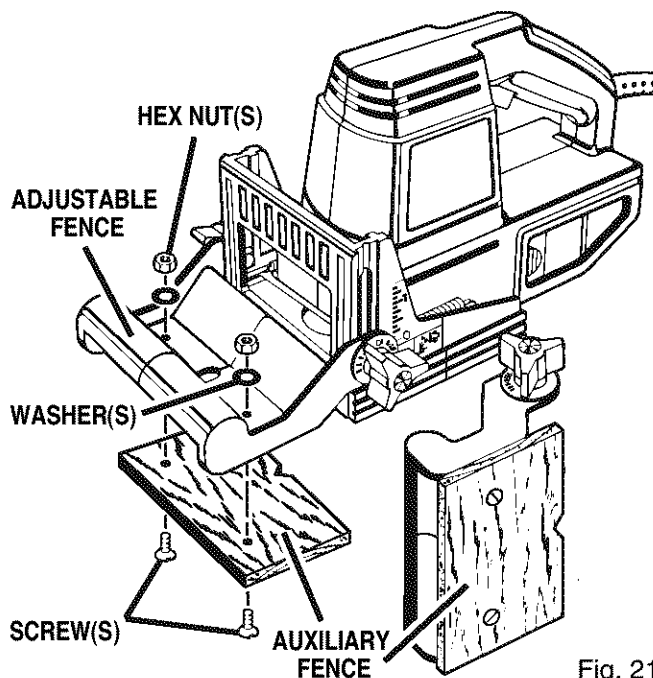

Fig. 21
- Place auxiliary fence against bottom of adjustable fence. See Figure 21.
- Secure auxiliary fence to adjustable fence with 3/16 in. x 3/4 in. flat head machine screws, washers, and hex nuts as shown in figure 21.